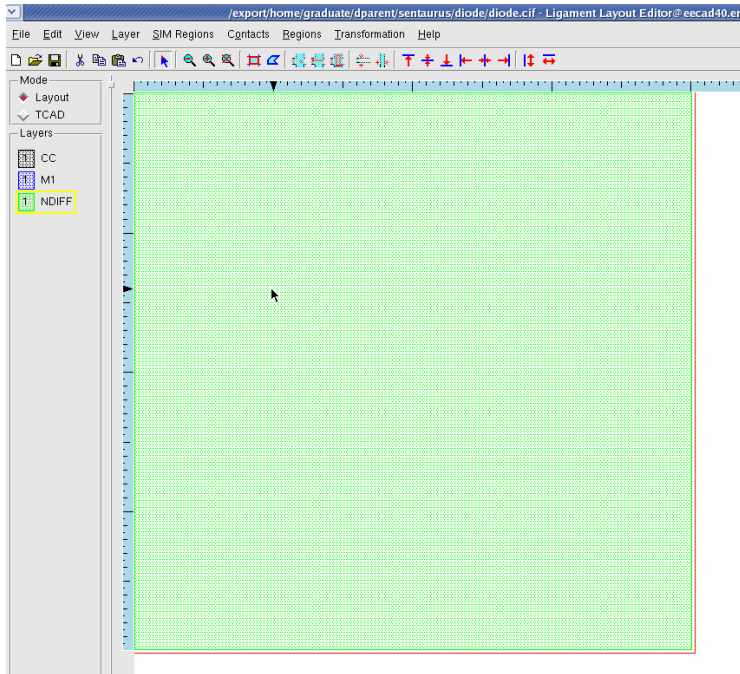

Figure 25: Clicking on shapes to bring them back into view.
13. After saving you will notice all your shapes will disappear (Figure 24Figure 24). Just click on where the shapes should be and they will re-appear (Figure 25).